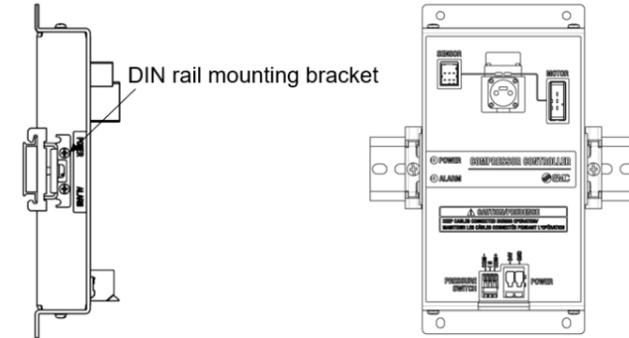

Figure 3
- Mount the controller onto the DIN rail plate using M4 screws supplied with the DIN rail mounting bracket assembly (use tightening torque of 0.6Nm). See Figure 3.